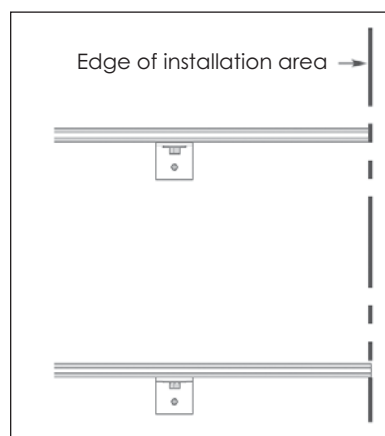
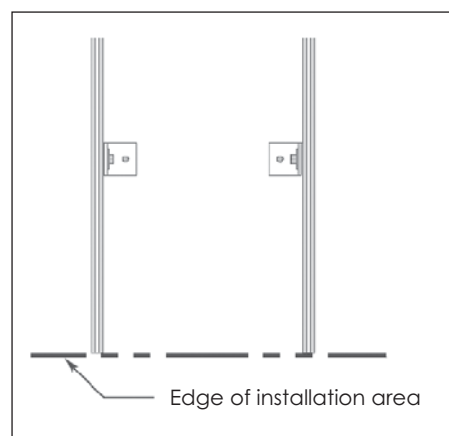

Figure 15. Rails perpendicular to the rafters.
Figure 16. Rails parallel to the rafters.
**Aligning the Rail End:** Align one pair of rail ends to the edge of the installation area (Fig. 15 or Fig. 16).
If the rails are perpendicular to the rafters (Fig. 15), either end of the rails can be aligned, but the first module must be installed at the aligned end.
If the rails are parallel to the rafters (Fig. 16), the aligned end of the rails must face the lower edge of the roof. Securely tighten all hardware after alignment is complete (30 ft lbs).